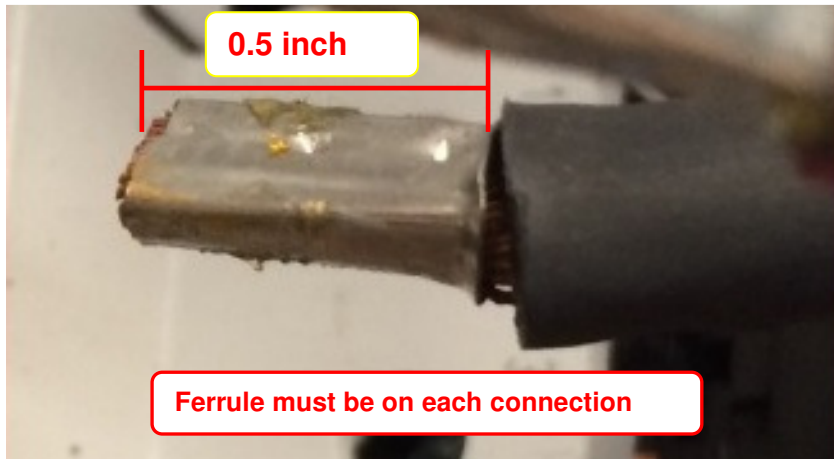

Figure 3. Inspect each phase wire end for fraying, loose strands, no ferrule forced/poor connections.
7. Open Electric HVAC Unit and proceed to inspect connections for either no ferrules, loose wire strands, insufficient wire contact or tightness of strain relief at the terminal. Refer to Figure 3 and 7 for details.